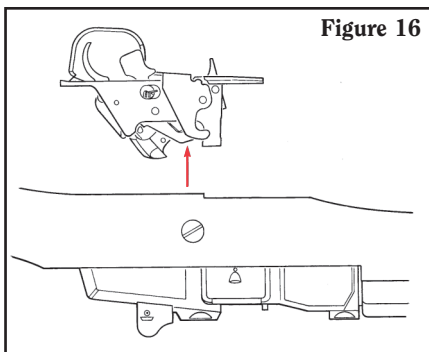

Figure 16
- Remove trigger housing assembly by carefully pulling it upward (see Figure 16). Be careful not to damage stock when removing or replacing the trigger housing assembly.